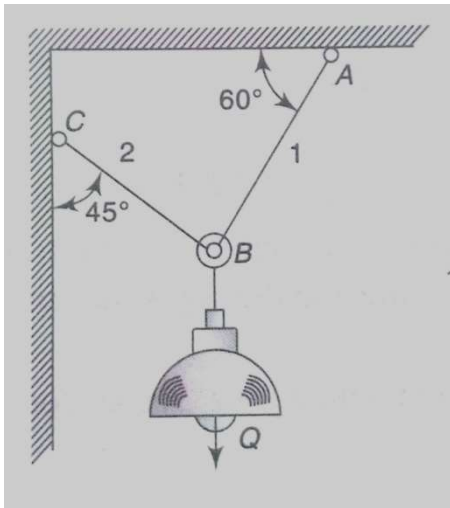

Figure 1.6
12. An electric-light fixture of weight $Q = 178 \text{ N}$ is supported as shown in Figure 1.6. Determine the tensile forces S_1 and S_2 in the wires BA and BC if their angles of inclination are as shown.